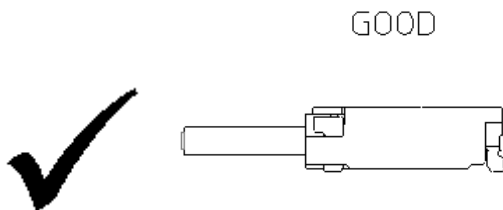
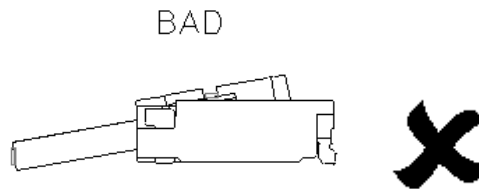

FIG. 3.1
FIG 3.2
3.1.2 When connector is fully mated, as shown in fig. 3.1, check for any incomplete mating which will cause damaged contacts as shown in fig. 3.2